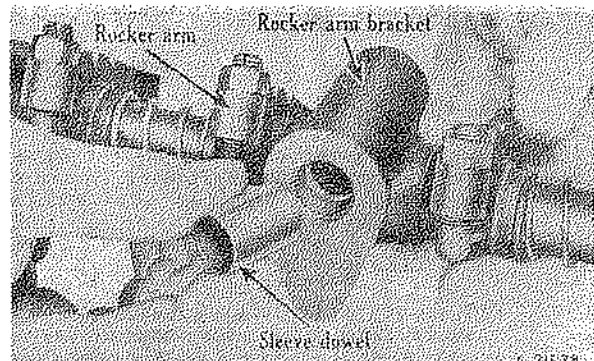

Fig. 7 - Details of sleeve dowel located in bracket
4. The three hold-down brackets are reamed, from the bottom side (Fig. 7) so that the sleeve dowels will fit .0005"-.0035" tight in brackets. About one-half inch of dowel is in the bracket. The remaining half of dowel is fitted .0025"-.0055" loose in the head. When removing rocker arm assembly the dowels will remain in hold-down brackets.